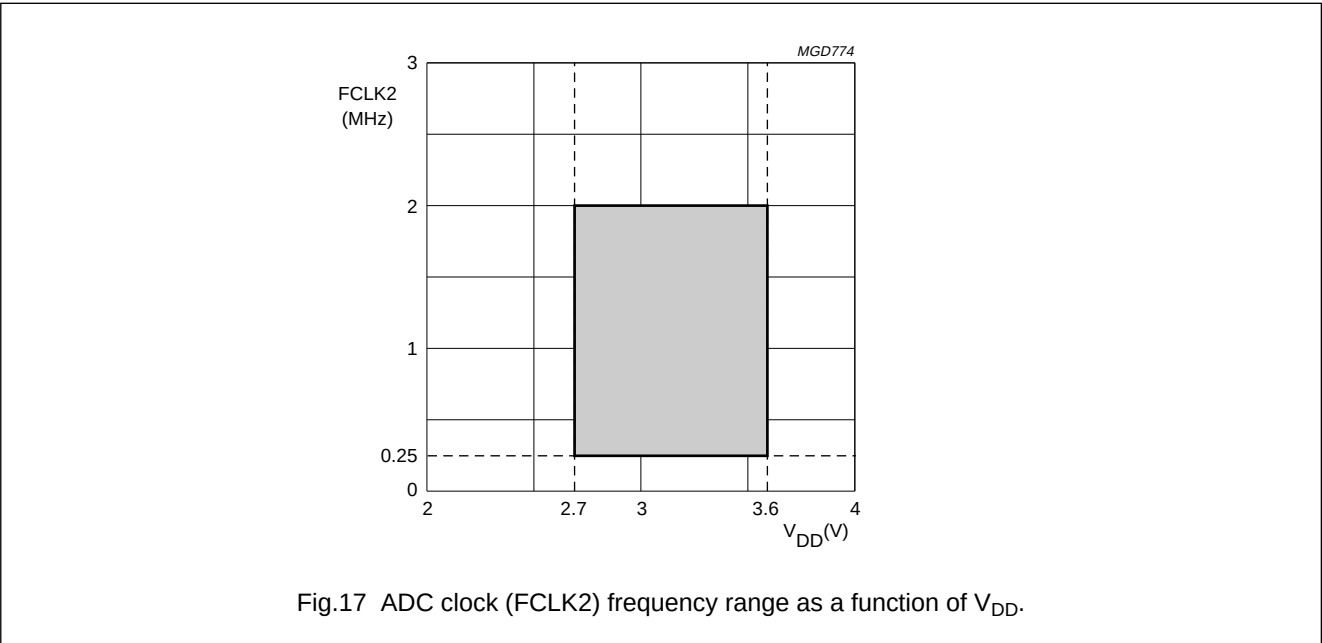

Fig.17 ADC clock (FCLK2) frequency range as a function of V_{DD}.
4. See Fig.17 for specific F_{CLK2} range as function of V_{DD} .